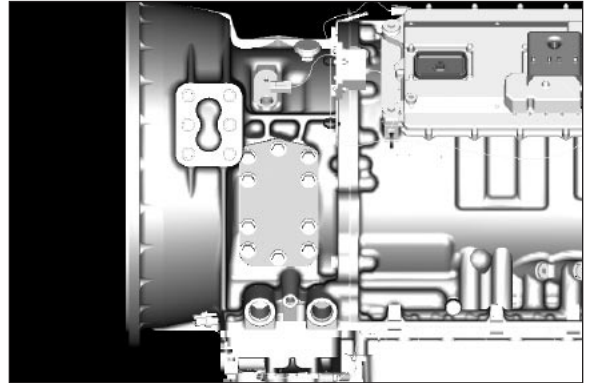

Fig. 1
1. Remove the P.T.O. aperture plate with a 16mm socket (**Fig. 1**).